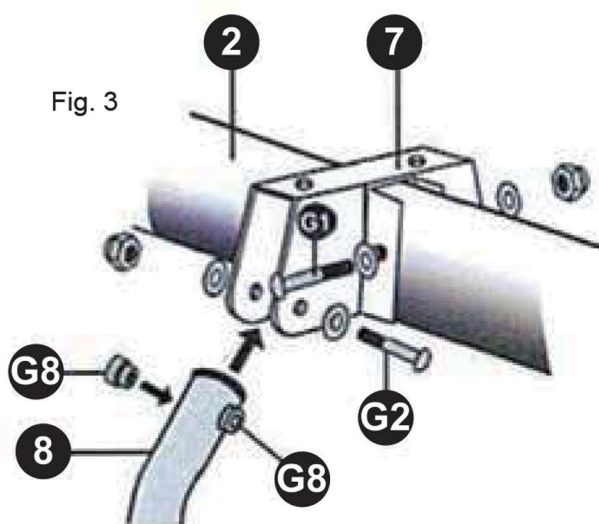

Fig. 3
Step 4. Attach curved upper bar portion of Glider Handle Tubes to holes on bottom corner of the Glider Bracket using 1 G2 fastener for each side (Fig. 3).